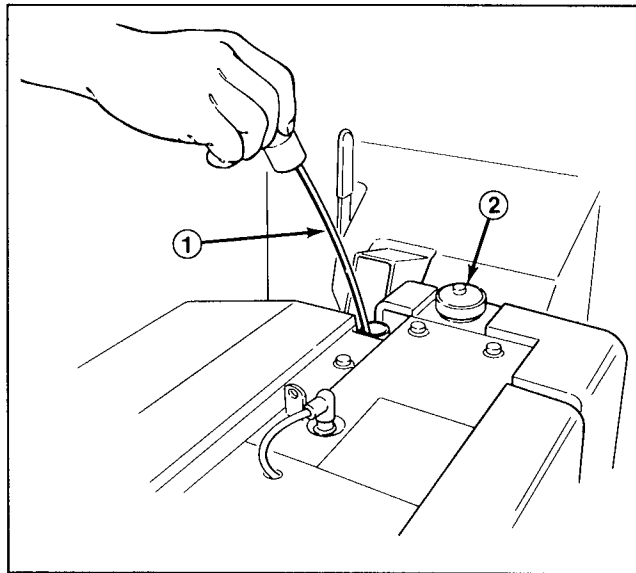

Figure 12
2. Remove dipstick and wipe it with a clean rag. Push dipstick down into dipstick tube and make sure it is seated fully. Pull dipstick out and check level of oil (Fig. 12). If oil level is low, add enough oil to raise level to FULL mark on dipstick.
1. Remove cap from the fuel tank (Fig. 12) and fill the 1.5 gallon tank to within 1 inch from the top with unleaded gasoline. Install fuel tank cap tightly.